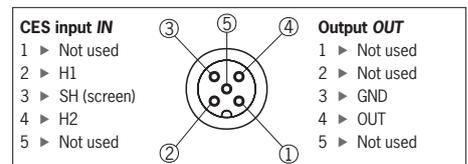

Figure 1: Socket assignment (view of connection side)
- ▶ Connect the CES or CEM/CET read head to the CES input *IN* (M12 socket 5-pin) (see Figure 1)
- ▶ Connect the solenoid on the CEM/CET read head to the Output *OUT* (M12 socket 5-pin with sealing cap) (see Figure 1)